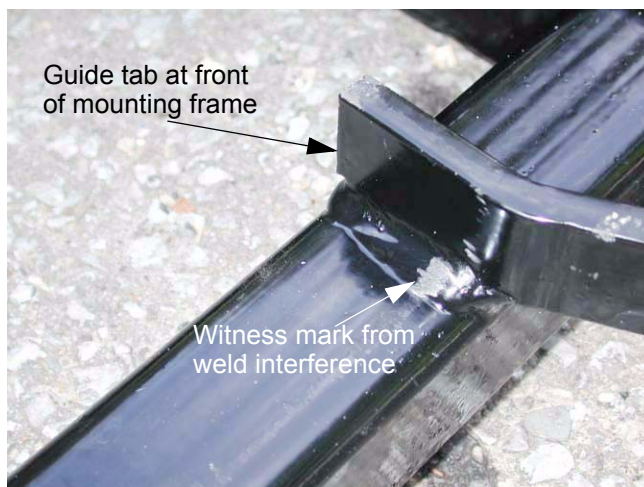

Figure 1.27
- 1.27. Confirm that the mounting frame seats fully into the latching bracket, allowing the T-handle clevis pins to drop completely to their stop shoulders. See Figure 1.27.